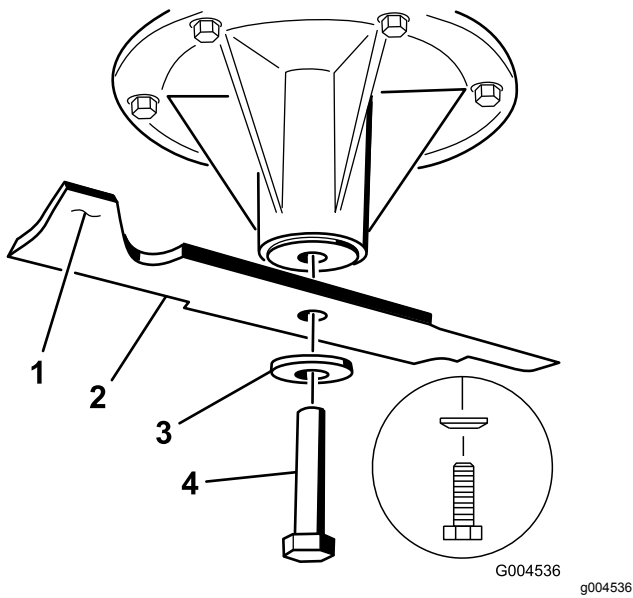

Figure 97
3. If the blade is not balanced, file some metal off the end of the sail area only (Figure 97).
1. Install the blade onto the spindle shaft (Figure 97).
bolt head (Figure 97). Torque the blade bolt to 115 to 150 N·m (85 to 110 ft-lb).